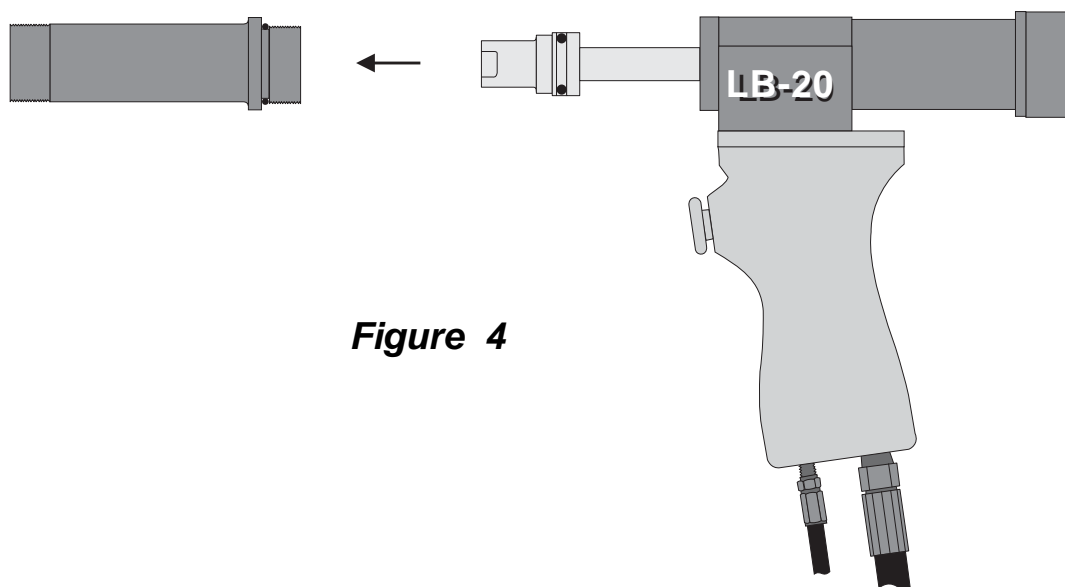

Figure 4
2. Unscrew and remove barrel from LB puller unit. (Figure 4)